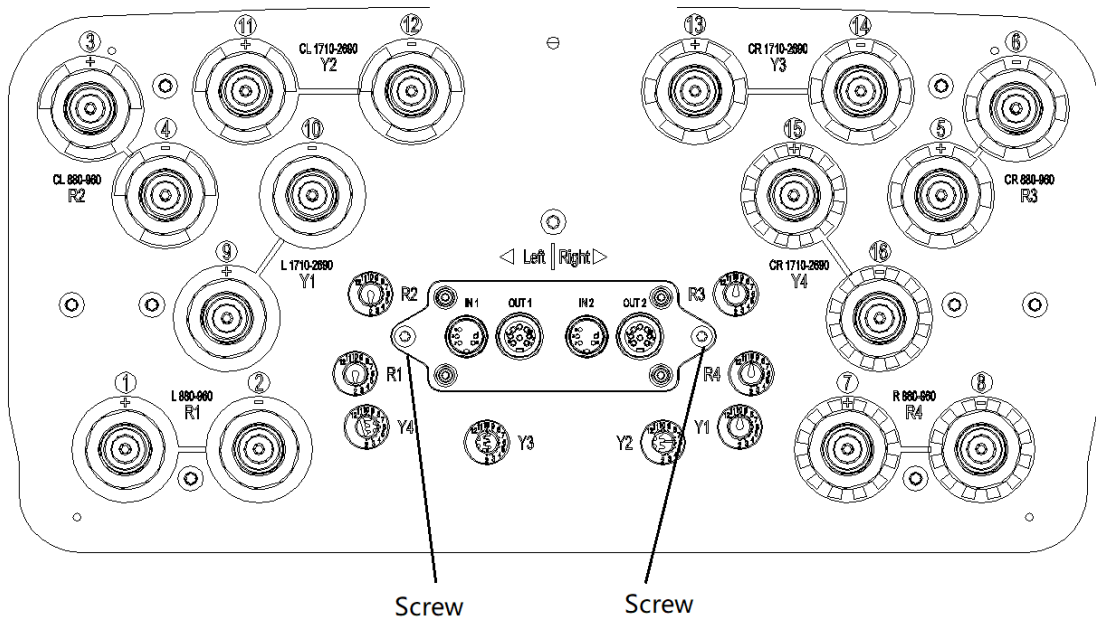

Figure 3 MIRCU Installation
- b) As shown in Figure 3, tighten screws on MIRCU using a slotted type screwdriver.